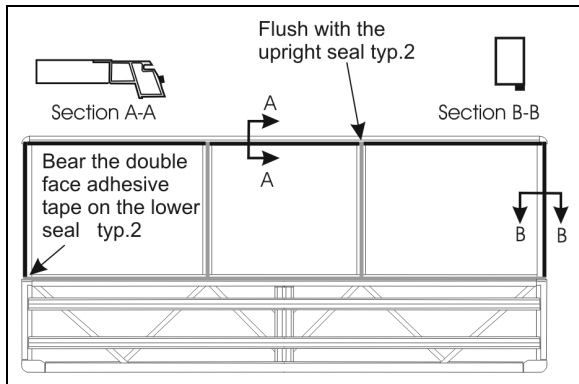
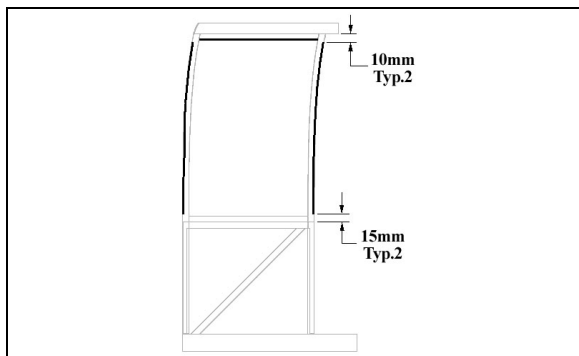

FIGURE 52 : FACE FIXED WINDOWS - 3/16 X 1/2 DOUBLE FACE ADHESIVE TAPE INSTALLATION
FIGURE 53 : SIDE FIXED WINDOW - 1/4 X 1/2 DOUBLE FACE ADHESIVE TAPE INSTALLATION
3. Apply appropriate double face self adhesive tape on the slide-out structure (see FIGURE 52 for face fixed windows or FIGURE 53 for side fixed window).